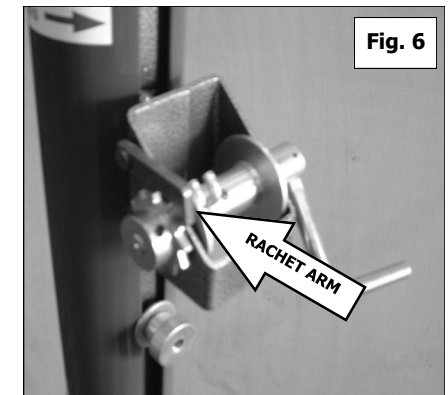

Fig. 6
2. The winch assembly (Fig. 6.) has a ratchet mechanism to maintain the tension on the net and must be operated with care taking note of the following.